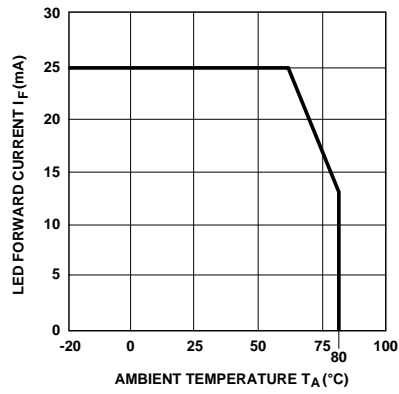

Figure 9. LED Forward Current vs. Ambient Temperature.
- Derate absolute maximum ratings with ambient temperatures as shown in Figures 9, 10, and 11.